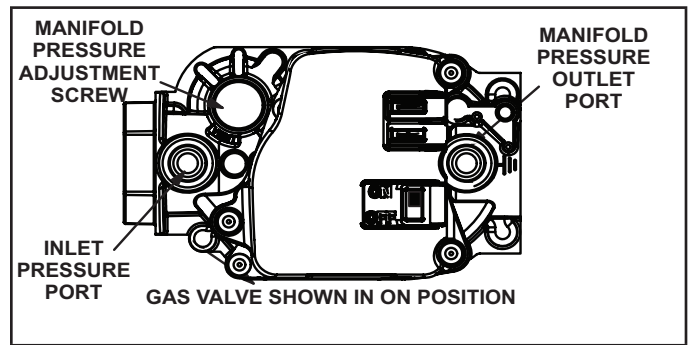

Figure 23
Gas Valve Operation (Figure 23)
- 6 - Move switch on gas valve to OFF. Do not force. See Figure 23.
- 8 - Move switch on gas valve to ON. Do not force. See Figure 23.